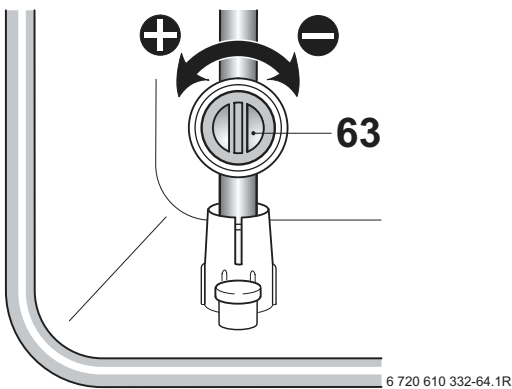

Fig. 46
- ▶ Adjust the gas flow restrictor (63) to obtain the CO2 level given in Table 15. Refer to fig. 46.